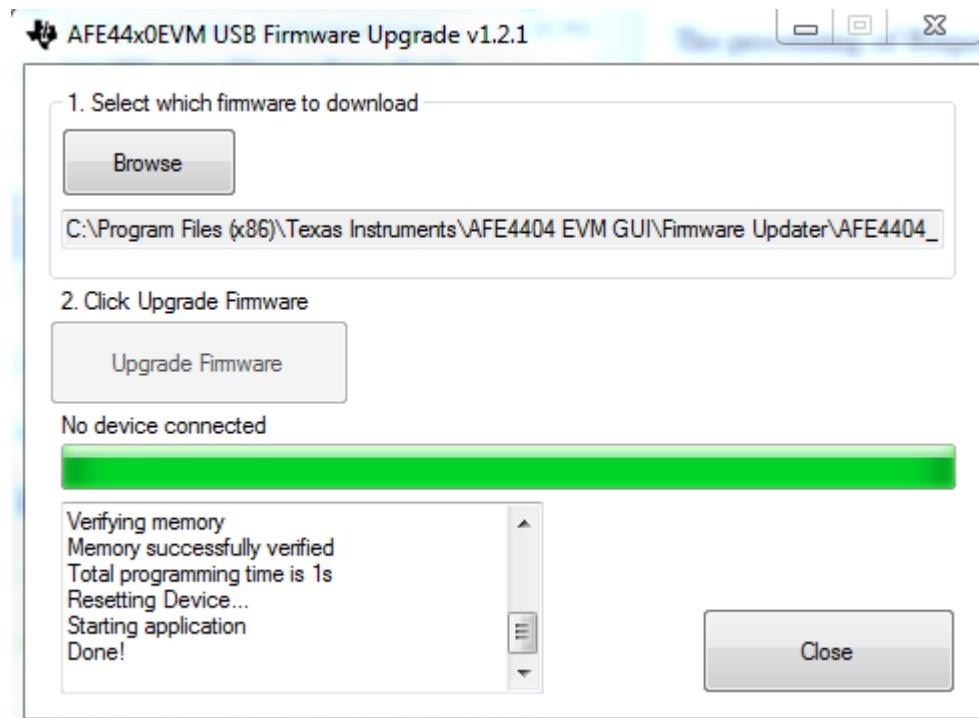

Figure 42. PC Application Firmware Upgrade – 4
- Once the device is programmed successfully, as shown in Figure 42, the device resets and reloads with the new firmware. Close the *Firmware Upgrade* application by clicking on the Close button and the PC GUI application automatically restarts the GUI after 4–5 seconds.